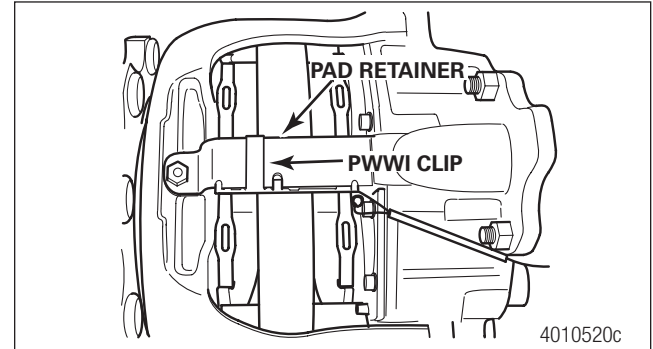

Figure 6.5 PWWI Clip
1. If the brake is equipped with a PWWI, remove the PWWI clip from the pad retainer before removing the pad retainer from the caliper. Figure 6.5.